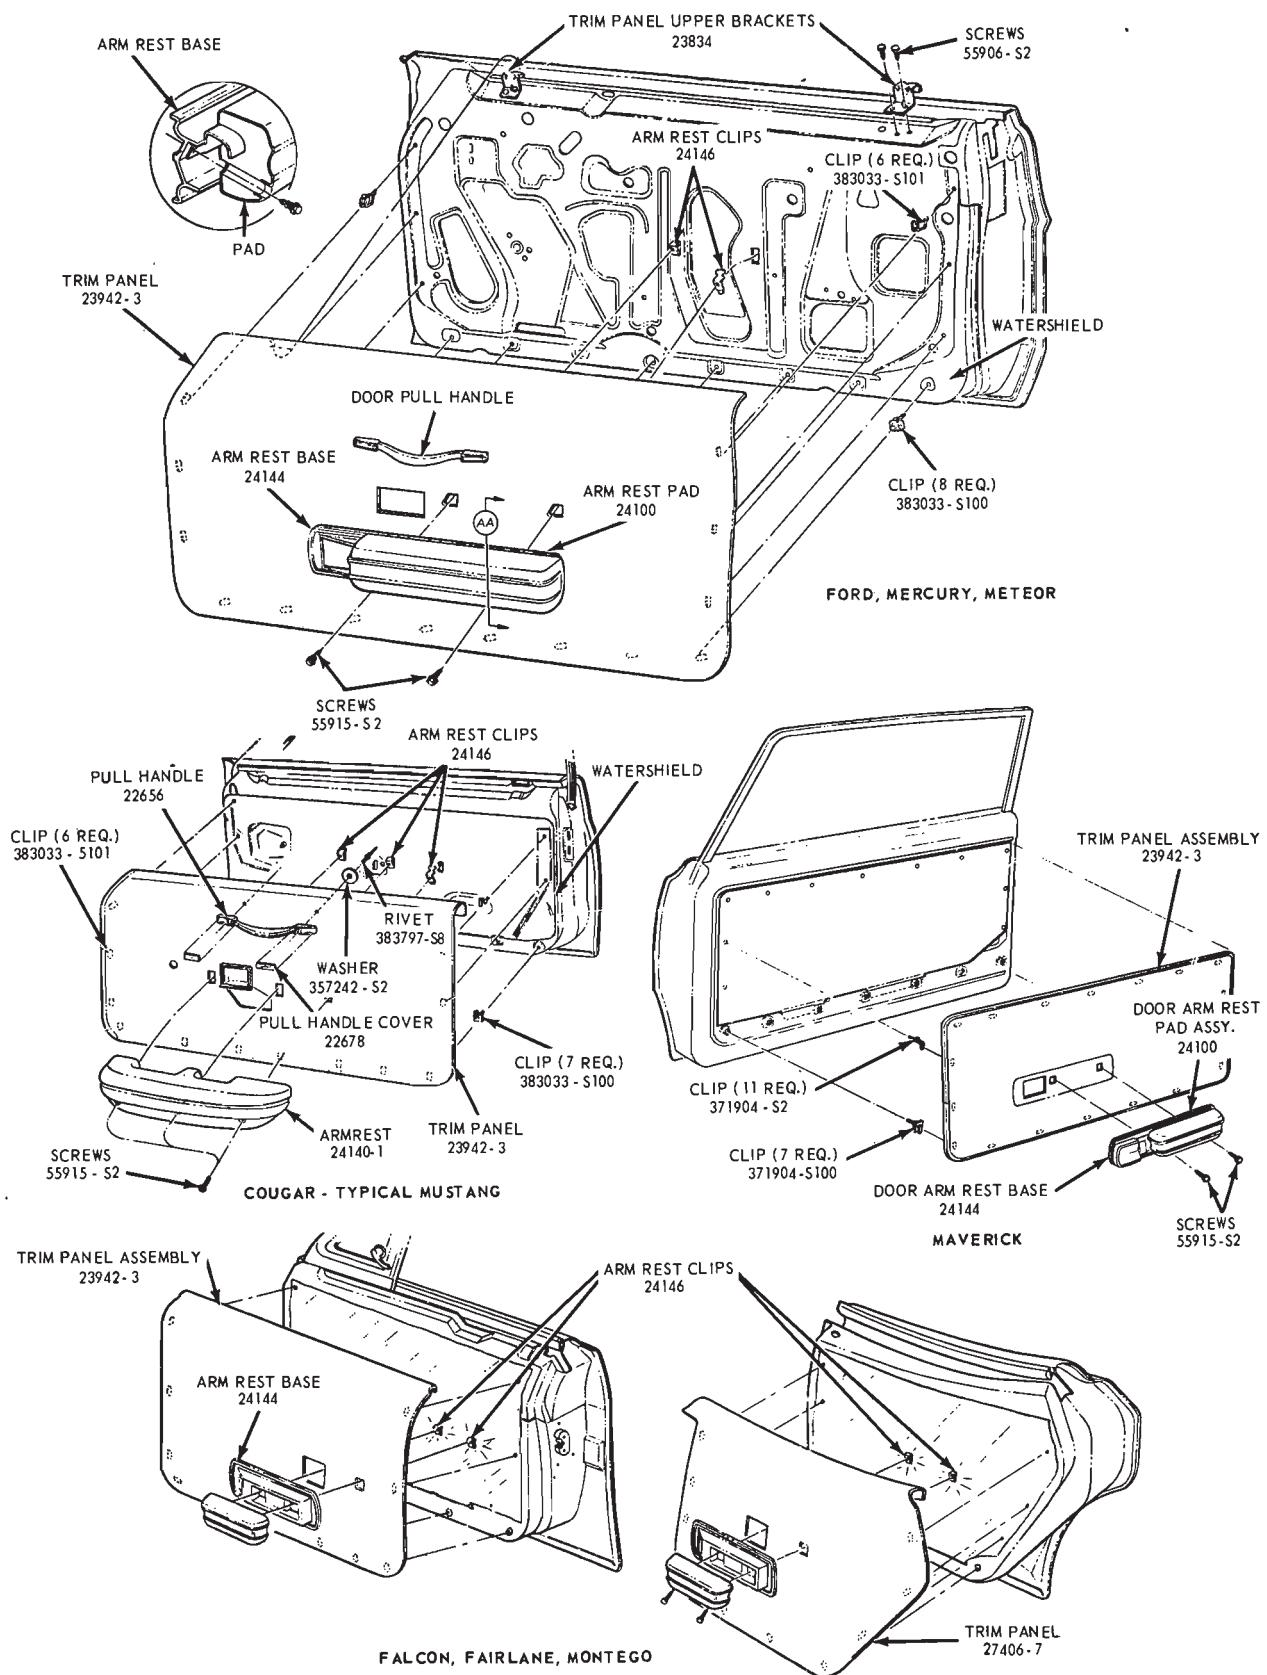

FIG. 2—Typical Door Trim Panel Installations
- With a putty knife, pry the trim panel retaining clips (Fig. 2) loose from the door inner panel.
The door pull handle pop rivet covers (Fig. 2) are cemented in place. To remove the door pull handle pop rivets, carefully pry the covers away from the handle. Position the pull handle to the new trim panel and install the pop rivets. Clean old cement from the covers with naptha. Use a 1 3/4 x 3/8 inch tape such as 3M No. Y9122 and cement the covers back in place.
3. Position the trim panel to the door and connect the power window switch wires to the switch (if so equipped). Be sure that all of the trim panel retaining clips are installed in the trim panel. Place the top edge of the trim panel over the trim panel upper brackets, and push the clips into place in the door inner panel (Fig. 2).